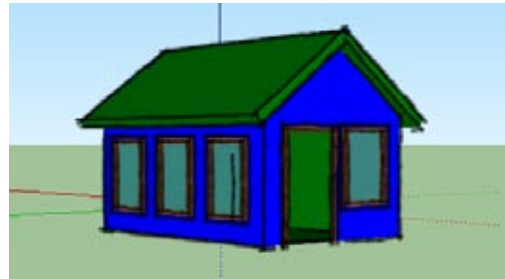

Figure 12-25
- The next properties to update are for faces. Click the Google Colors style and apply it to Face Settings. This changes the front and back face colors of the style (Figure 12-25).